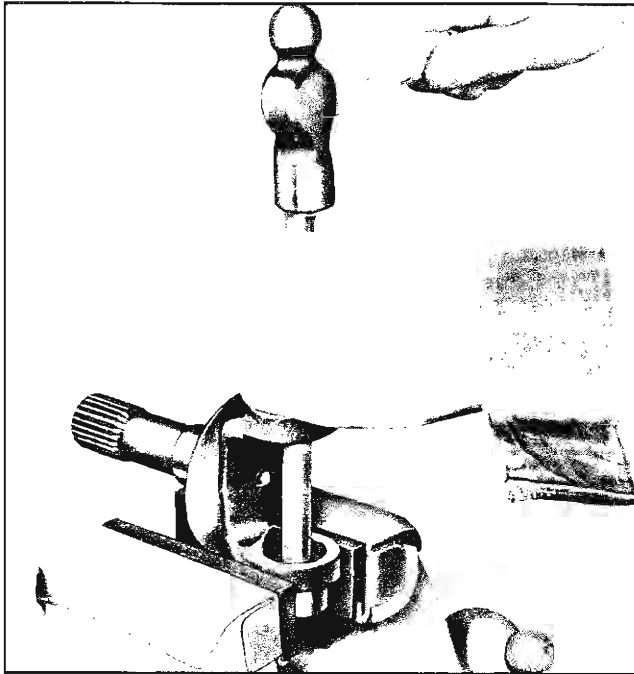

Fig. 4-12 Removing Bearing
9. Remove remaining bearing from yoke with drift (Fig. 4-12).